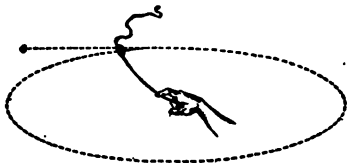

FIG. 136. A moving body tends to travel in a straight line.
**Exercise 8.** Make a sling like the one shown in Figure 136. Select a safe place for your experiment, then fit a stone into the sling, whirl it about your head, and release one of the strings. Does the stone continue to move in a circle, or does it travel off in a straight line when it leaves the sling? Why?